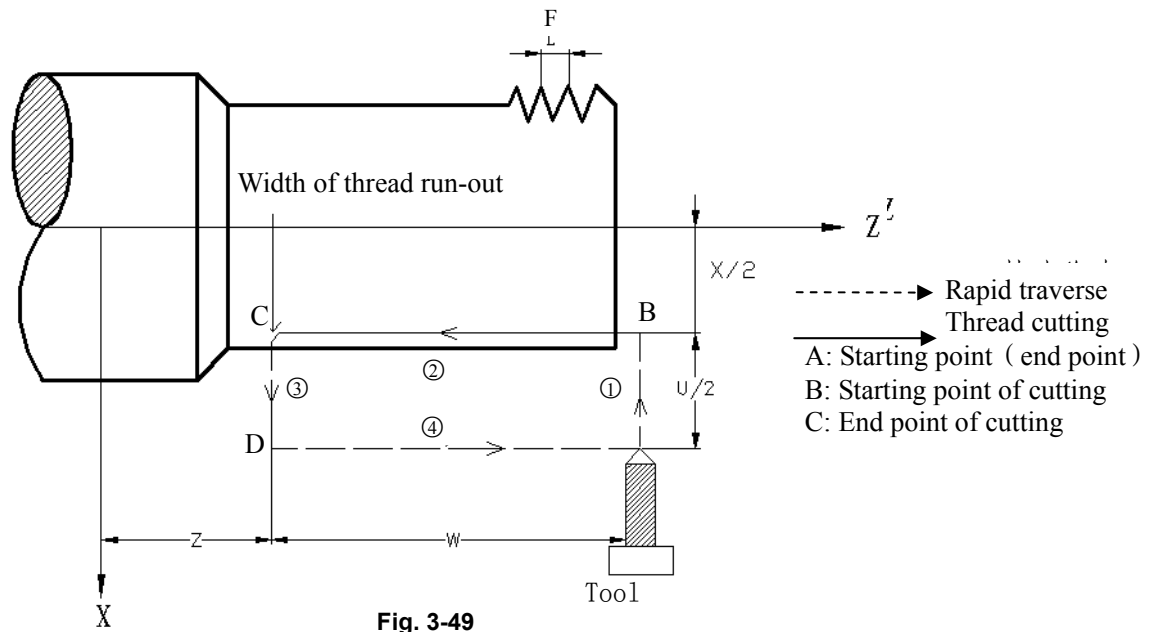
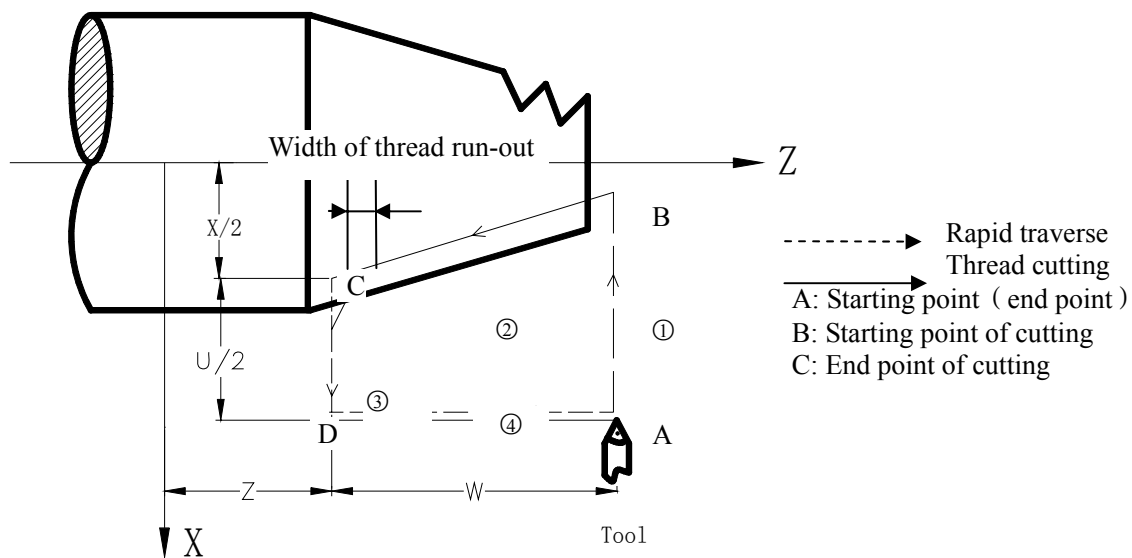

Fig. 3-49
Fig. 3-50
Command function: Tool infeeds in radial(X) direction and cuts in axial(Z or X, Z) direction from starting point of cutting to realize straight thread, taper thread cutting cycle with constant thread pitch. Thread run-out in G92: at the fixed distance from end point of thread cutting, Z executes thread interpolation and X retracts with exponential or linear acceleration, and X retracts at rapidly traverse speed after Z reaches to end point of cutting as Fig. 3-49.
Cycle process: straight thread as Fig.3-49 and taper thread as Fig.3-50.